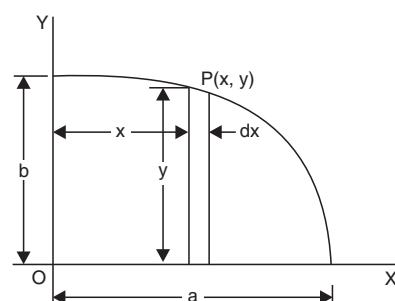

Fig. 7.34
**Example 7.13.** Find the position of centre of gravity of the plane lamina in the form of a quarter of an ellipse, shown in Fig. 7.34.
**Sol.** Refer to Fig. 7.34.